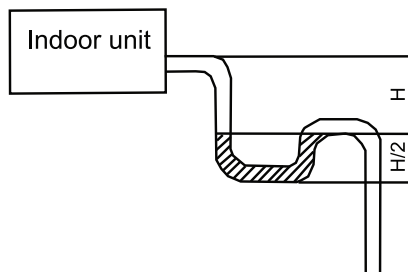

Figure 3-1-52
(5). If the air flow of indoor unit is high, this might cause negative pressure and result in return suction of outdoor air. Therefore, U-type water trap shall be designed on the drainage side of each indoor unit.( Figure 3-1-52)